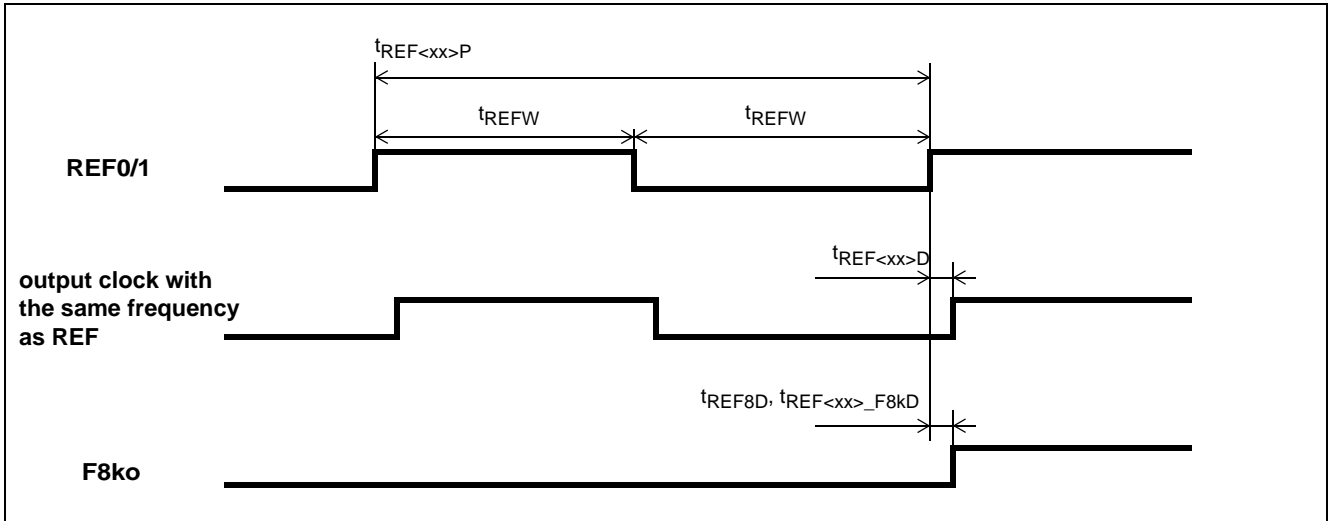

Figure 14 - Input to Output Timing
**AC Electrical Characteristics\* - Input timing for REF0 and REF1 references (see Figure 14).**
**AC Electrical Characteristics\* - Input to output timing for REF0 and REF1 references (see Figure 14).**